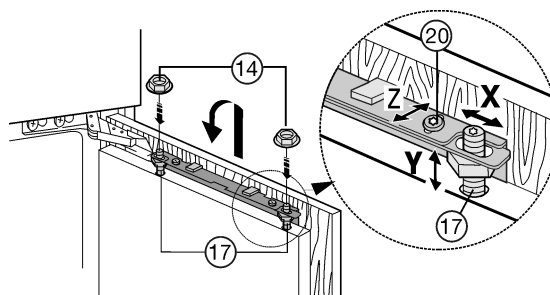

Fig. 24
- ▶ Attach the unit door to the adjusting bolts Fig. 24 (17) and loosely screw the locknuts Fig. 24 (14) onto them.
- ▶ To align the unit door in height Y and in lateral inclination: adjust the adjusting bolt Fig. 24 (17) with a screwdriver.
- ▶ Tighten the locknuts Fig. 24 (14).